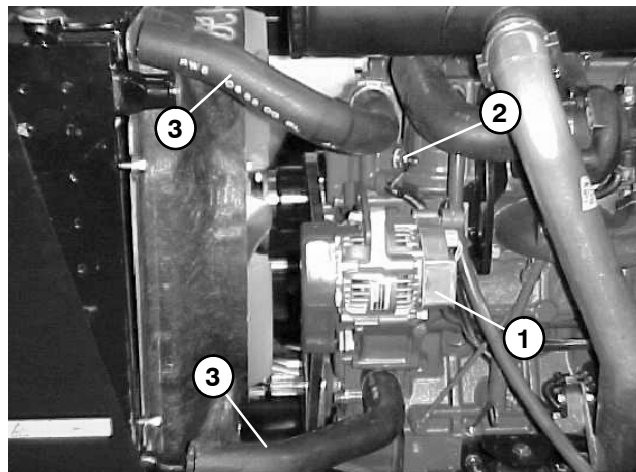

Figure 12
3. Drain coolant from radiator into a suitable container (see Radiator Removal). Disconnect coolant hoses from the radiator (Fig. 12).
A. The temperature sender and alternator (Fig 12). Note: red wire attached to alternator with washer, nut, and boot does not have to be removed.
- A. The temperature sender and alternator (Fig 12).